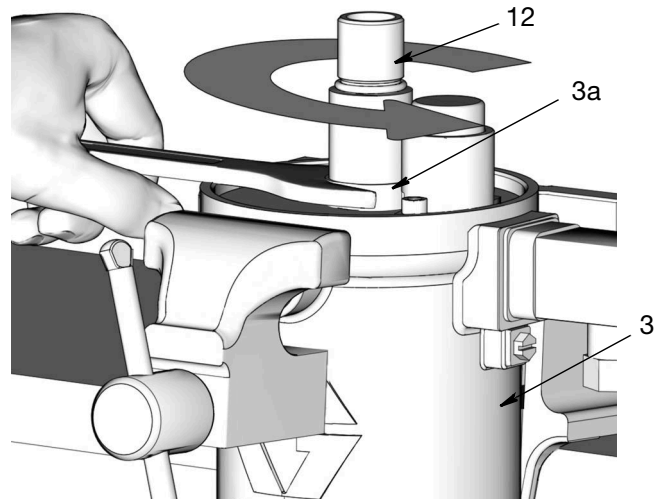

FIG. 17
14. Loosen the nut (3a) and remove the pump cylinder (12) from the air motor cylinder (3) (FIG. 17).